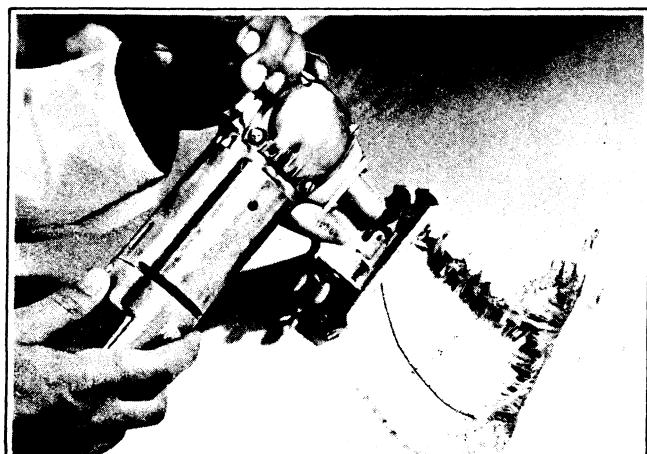

Figure 2-72. Sawing Out Damaged Area
2. Prepare injured area by cutting back fractured material to the sound part of the material. A key-hole or electric saber saw can be used to cut out the ragged edges. See Figure 2-72.